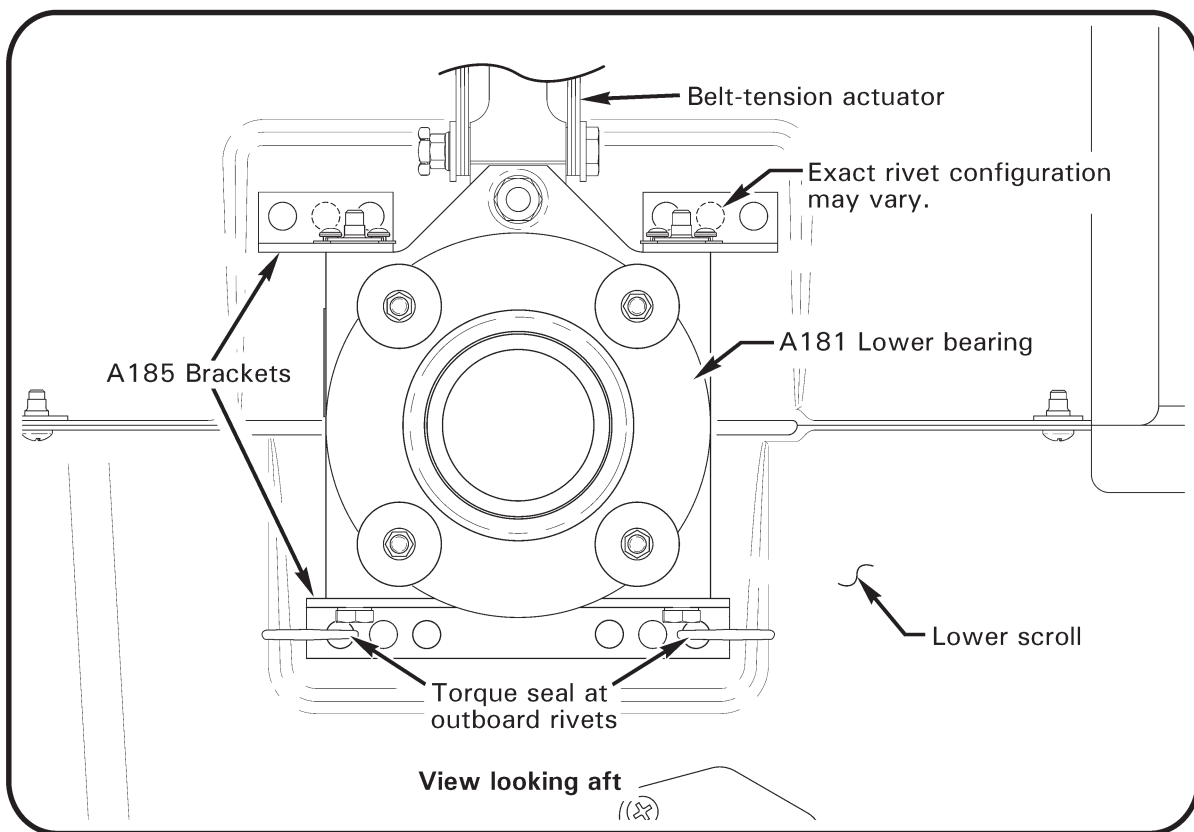

FIGURE 2-4D ACTUATOR LOWER BEARING A185 BRACKETS
**8. Remove Tailcone Fairing (8) (continued)**
**Lower Bearing Brackets:** Refer to Figure 2-4D. Visually inspect A185 brackets and attaching rivets for evidence of fretting or looseness. If evidence of looseness is found repair per R22 SL-74A. On lower A185 bracket, apply torque seal in a horizontal stripe across both outboard rivets to lower scroll to facilitate future inspections.